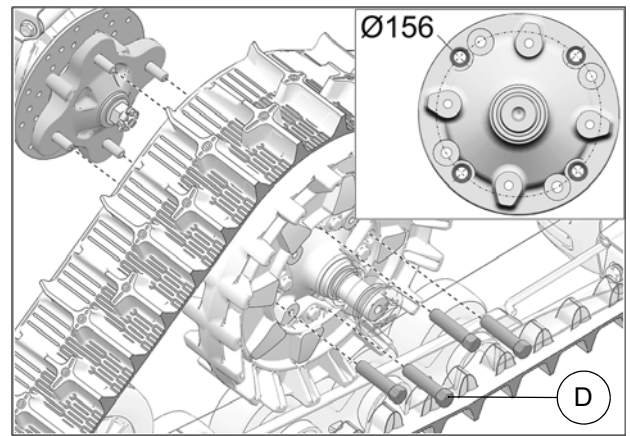

Fig. 24
13. Secure undercarriage to rear hub using the provided M12 lug nuts (D). Use bolt circle Ø156 mm. See Fig. 24